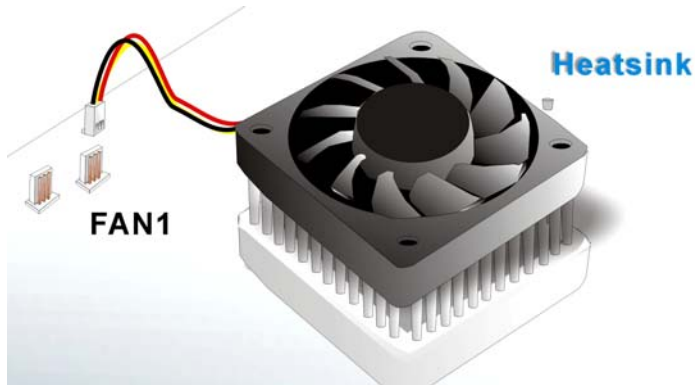

Figure 4-5: Connect the cooling fan cable
Step 4: **Connect the fan cable.** Connect the cooling kit fan cable to the FAN1 connector on the motherboard. Carefully route the cable and avoid heat generating chips and fan blades. (See **Figure 4-5**)